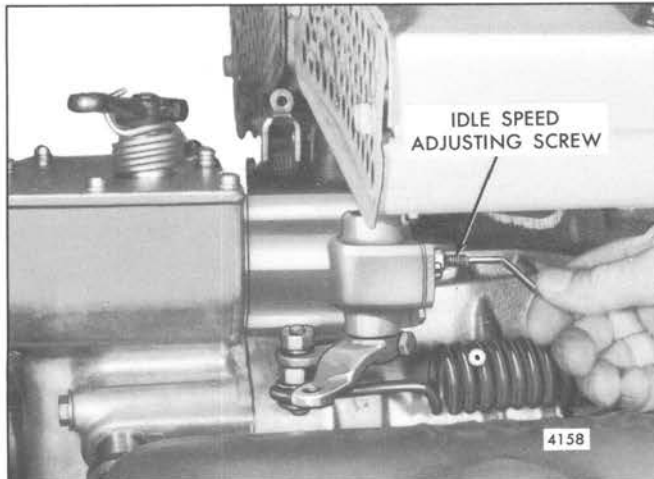

Fig. 7 - Adjusting Idle Speed
3. Loosen the locknut and turn the idle speed adjusting screw until the engine is operating at approximately 15 rpm below the recommended idle speed (Fig. 7). The recommended idle speed is 550 RPM, but may vary with special engine applications.